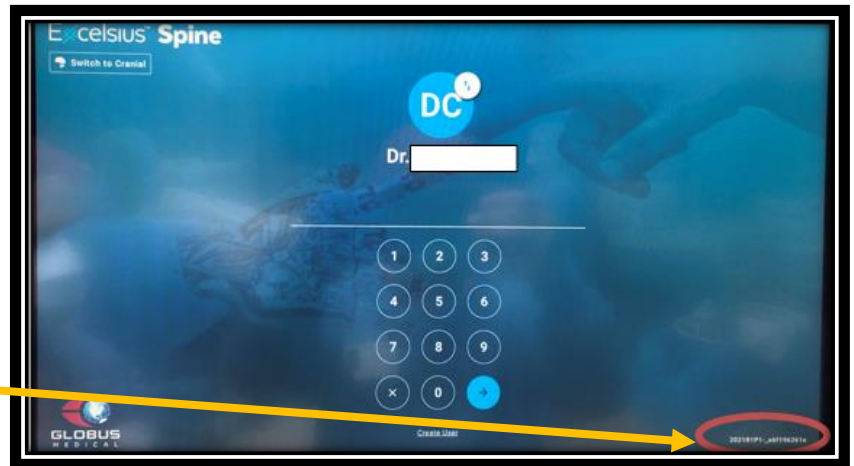

Figure 1
- Turn on ExcelsiusGPS®, confirm Excelsius Spine is loaded and the version on bottom right of the screen (Figure 1). Login per the Screen immediately below.